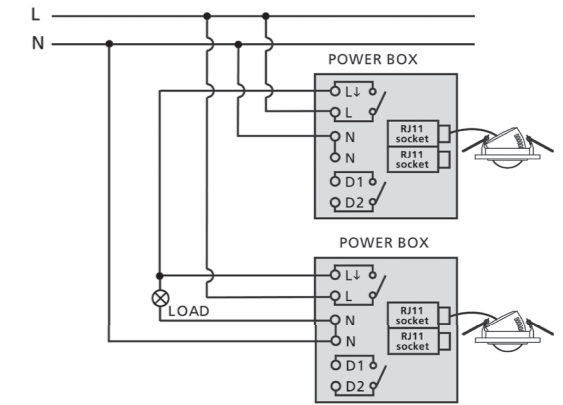

Fig. 4
3.2.2 One load is controlled by two sensors (see Fig. 4).